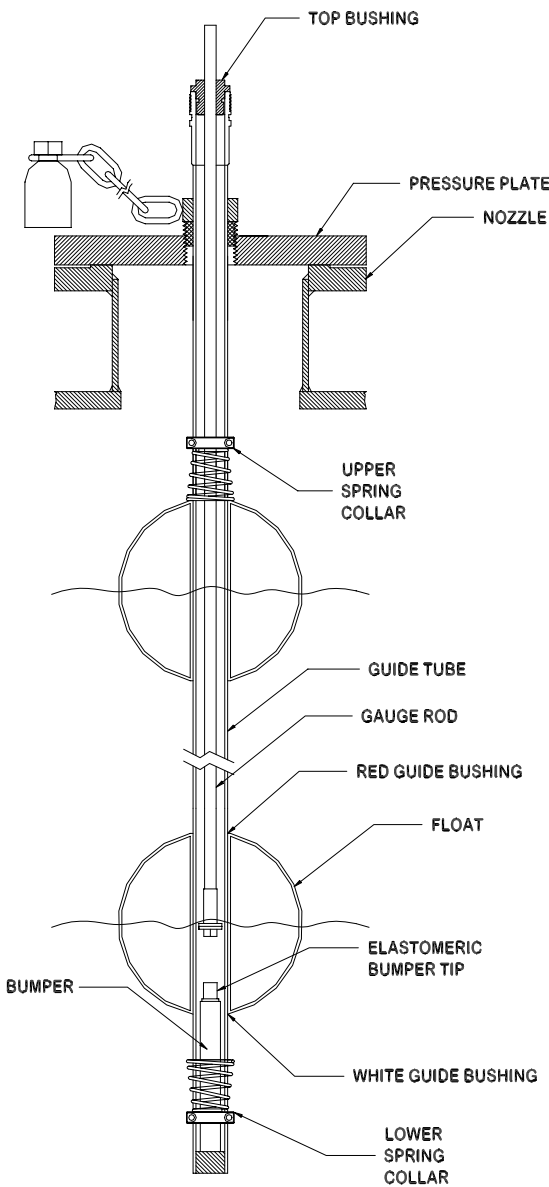

FIGURE 1
4. The upper spring collar must be installed with the spring facing down (see Figure 1). The float has teflon guide bushings which are the interface between the float and the guide tube. One bushing is red and the other bushing is white. The float must be installed on the guide tube with the red bushing pointing toward the pressure plate, and the white bushing pointing toward the bottom of the tank. The end of the float with the red bushing is also etched with the letters "TOP." Once the float is installed on the guide tube, it must be protected at all times from heat and weld splatter. Always slide the float on the guide tube away from the area being welded. The lower spring collar must be installed with the spring facing up (see Figure 1).